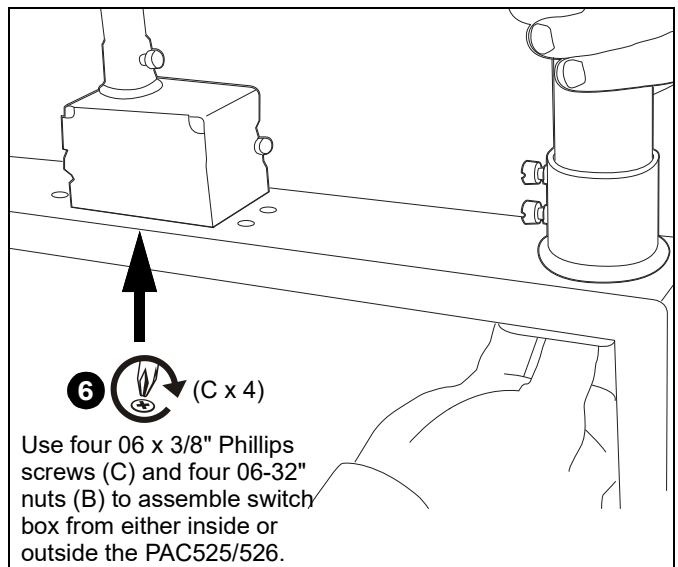

Figure 7
- Loosely attach required conduit and conduit connectors, switch boxes, outlets, etc (not included) to PAC525/526 to enable fitting into the wall opening. (See Figure 7)